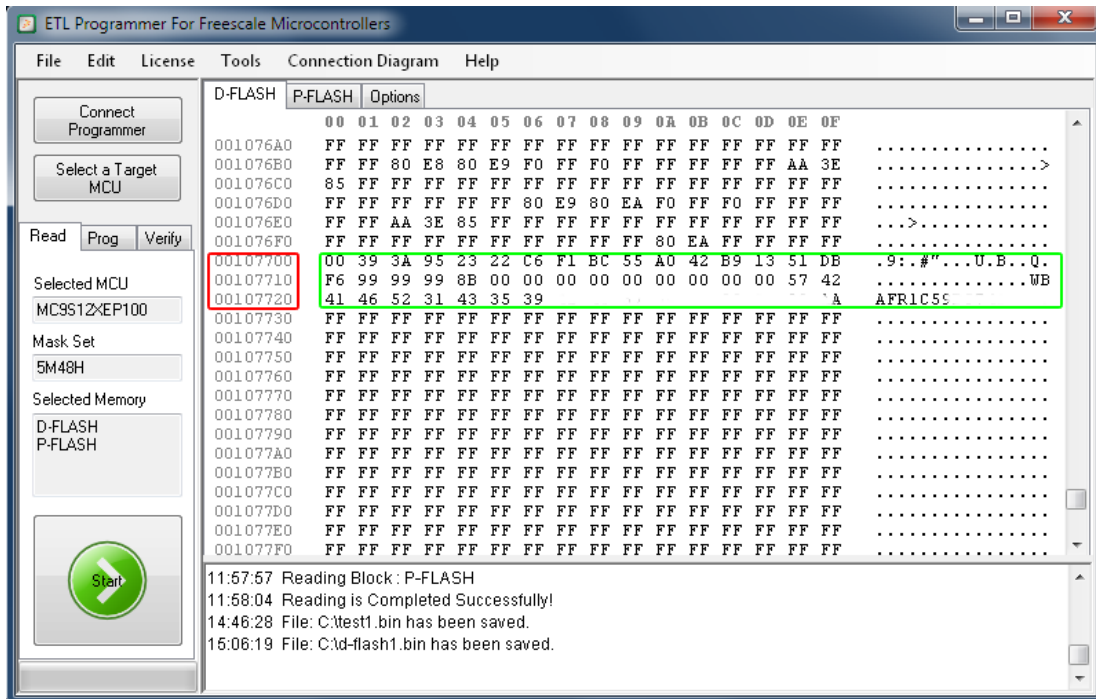

Figure 29 Data-FLASH memory dump
**Note:** The Data-FLASH can be viewed and edited in MC9S12(X)-Programmer 'hex editor' window. Figure 29 shows the same data as decoded by 'BMW Explorer'.